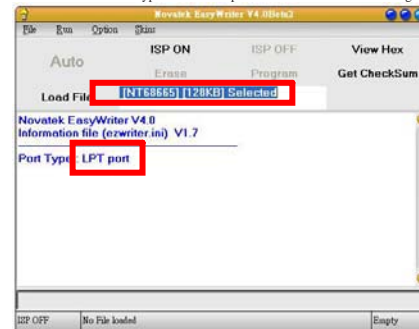

Fig.8
4. Make sure the MCU type and transfer port are corrected as shown in Fig.8.